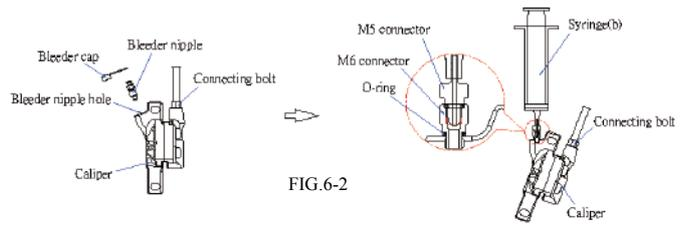

FIG.6-2
- 6-2. Dismount the bleeder nut and bleeder cap at the both side of the dispatch. Screw the unfilled syringe (b) [syringe+m5/m6connector+O-ring] into the bleeder screw hole with tightening torque 1~2Nm (8.85~17.7in. lbs) as FIG.6-2 show.